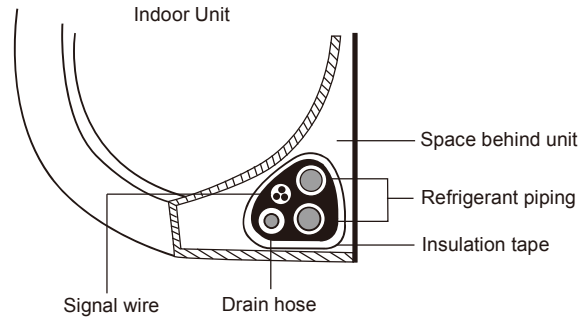

Fig. 4.11
1. Bundle the drain hose, refrigerant pipes, and signal cable according to Fig. 4.11.
3. Using insulation tape, wrap the signal wire, refrigerant pipes, and drain hose tightly together. Double-check that all items are bundled in accordance with Fig. 4.11.